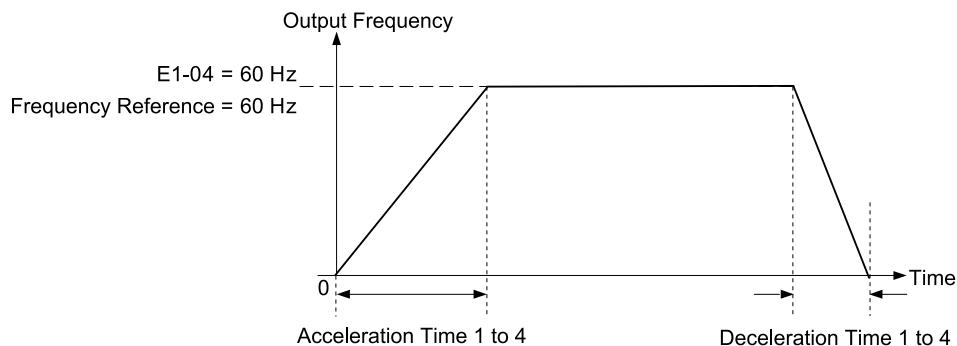
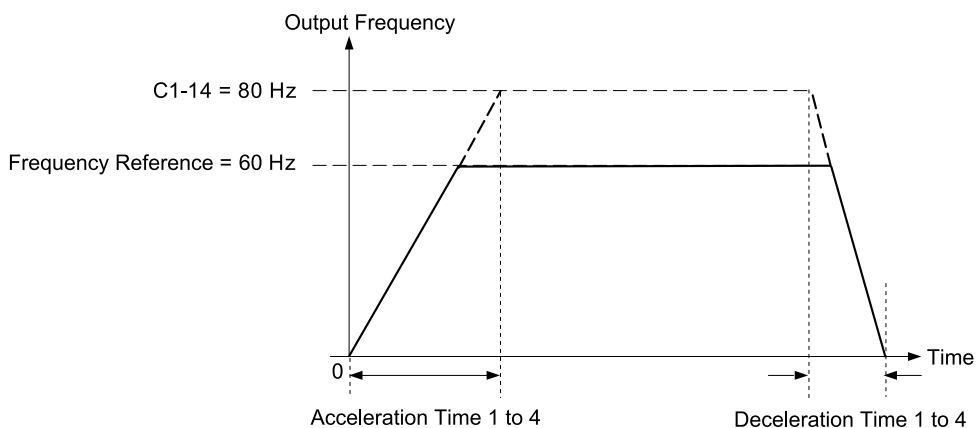

Figure 2.37 Example 1: Acceleration/Deceleration Rate (When C1-14 = 0 Hz, E1-04 = 60 Hz, and the Frequency Reference is 60 Hz)
Figure 2.39 Example 3: Acceleration/Deceleration Rate (When C1-14 = 80 Hz, E1-04 = 60 Hz, and the Frequency Reference is 60 Hz)
- Figure 2.37 to Figure 2.39 show the accel/decel times when $C2-01$ to $C2-04$ [S-Curve Times @ Start/End of Accel/Decel] = 0.00 s.